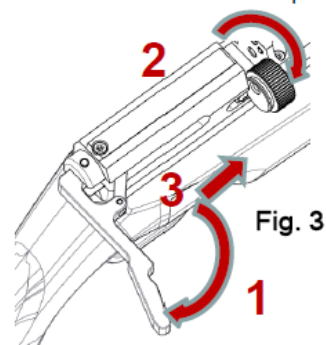

Fig. 3
- Once the bottle-regulator unit has been placed on the rifle, activate the ON-OFF valve (Fig. 3 pos. 1) by turning the valve Allen nut clockwise until it is tight.
- To load your airgun, pull the cocking lever out and to the rear (Fig. 3, position 1). **Be sure that the lever is always in the rear position.**
- Turn the magazine to the loading position (Fig. 3, position 2) and insert the pellet (Fig. 3, position 3) through the hole of the magazine.